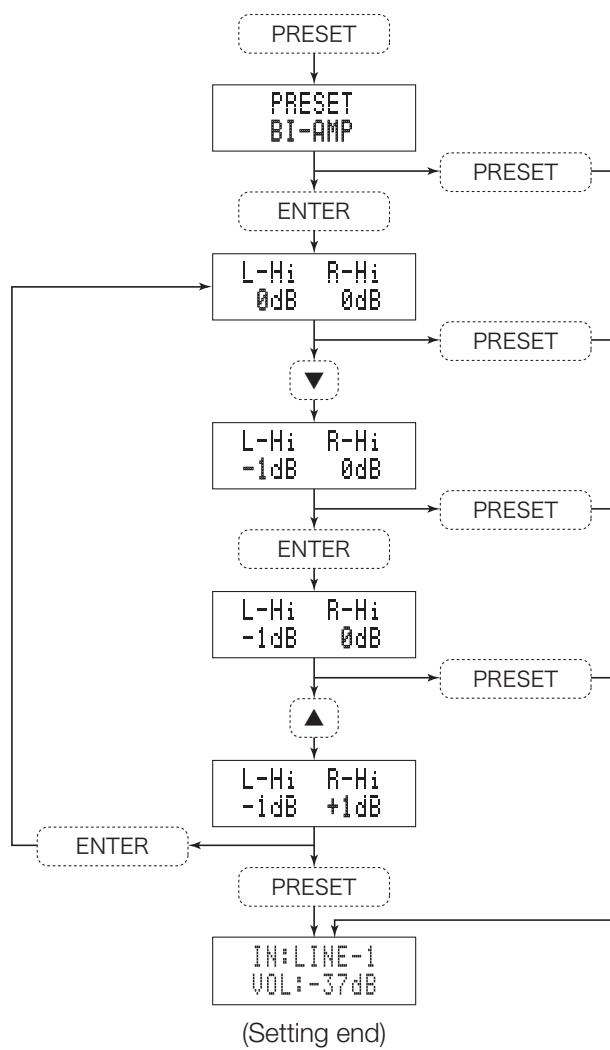

Fig. 2
- (1) Press the PRESET switch when the output mode is set to the bi-amplifier output to activate the bi-amplifier preset mode. (1st line of Fig. 2)
- (2) Press the ENTER switch, and the L-Hi level blinks to show that the level of the L-Hi channel can be adjusted. (2nd line of Fig. 2)
- (3) Pressing ▲ increases the sound volume of the L-Hi channel in steps of 1 dB.
E.g.) If ▼ is pressed once, -1 dB appears. (3rd line of Fig. 2)
- (4) Press the ENTER switch, and the R-Hi level blinks to show that the level of the R-Hi channel can be adjusted. (4th line of Fig. 2)
- (5) Pressing ▲ increases the sound volume of the R-Hi channel in steps of 1 dB.
E.g.) If ▲ is pressed once, +1 dB appears. (5th line of Fig. 2)
(6) Press the ENTER switch to set the step back to the step (2) to enable the L-Hi channel adjustment again.
(7) Pressing the PRESET switch allows the setting to be memorized in any state of the steps from (1) through (5) and the preset mode to end.